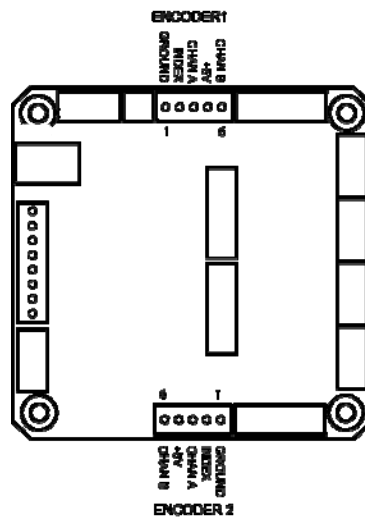

Figure 7 Encoder Connectors
There are two encoder input connectors, one for Axis 1 (Encoder 1) and the other for Axis 2 (Encoder 2). The connectors accept index and AB quadrature pulses, and provide 5V power to the encoders. See Figure 7 .
2. Make index, power and ground connections from the encoder on the shaft to the encoder connector for the desired Axis, 1 or 2. Refer to Figure 7 Encoder Connectors, page 56.